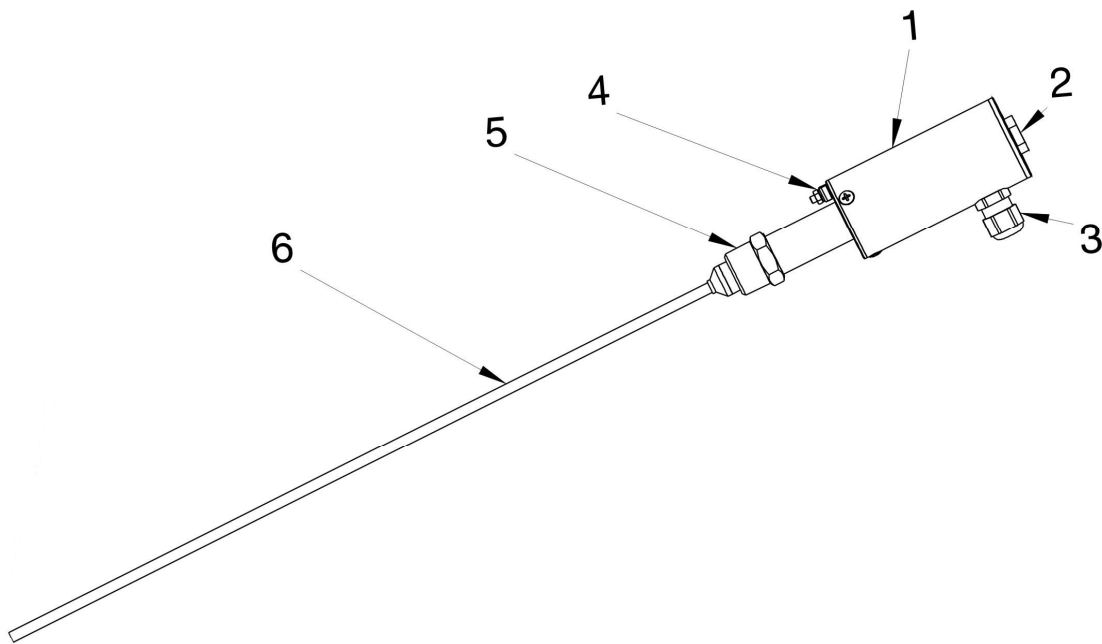

Figure 1: The CT-1000 level sensor
The design of the CT-1000 level sensor is illustrated in Figure 1 with the screw-in unit version as an example. Inside the sensor head (1) and concealed by the cap (2) are the protected terminals and configuration buttons. The electrical connection is established by means of an M16x1.5 screwed cable gland (3) and screw terminals or by an M12 plug-in connection. Ground connection (4) is required only in conjunction with the CT-1000 Mono version (see section 5 Electrical connection). On the probe neck, there is either a screw-in unit (5) or a flange (not shown) for installing the probe in the container. The probe neck (6) is a long, thin tube.